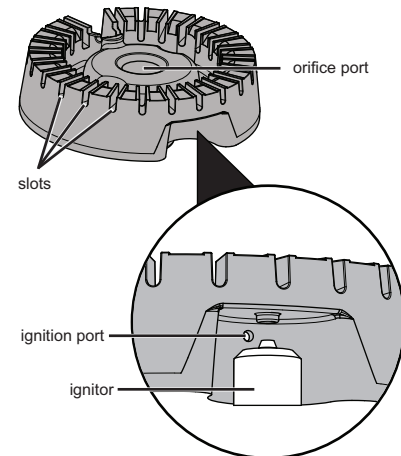

Figure 39: Sealed burner components
3. Use a toothbrush to clean all over the burner head (see Figure 39).
4. Use the toothbrush to clean the slots and holes in the burner (see Figure 39).
5. Use a needle or fine wire to clean out the ignition port (see Figure 39).